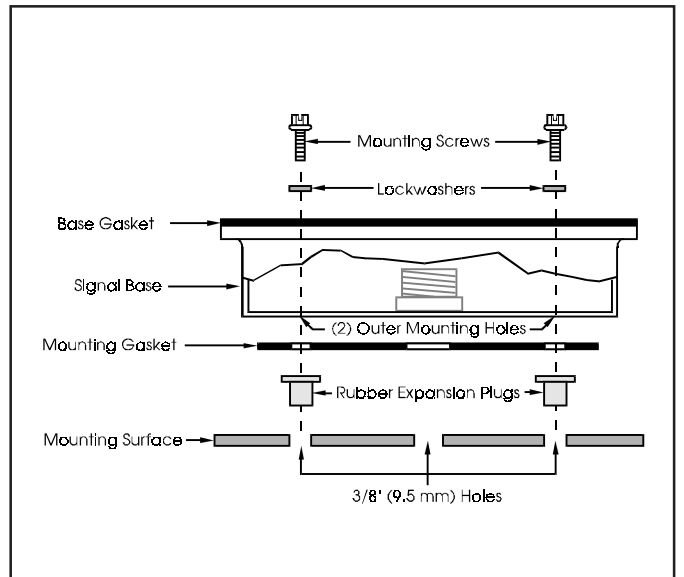

Figure 2. Direct Surface Mounting of Signal
- c. Install the two rubber expansion plugs provided in the hardware kit into the two outer holes in the mounting surface as indicated in Figure 2.
- e. Align the holes in the gasket with the holes in the base. Insert the two screws with lockwashers provided in the hardware kit through the mounting holes inside the base and align the screws with the rubber expansion plugs as shown in Figure 2. Press the base firmly against the mounting surface.